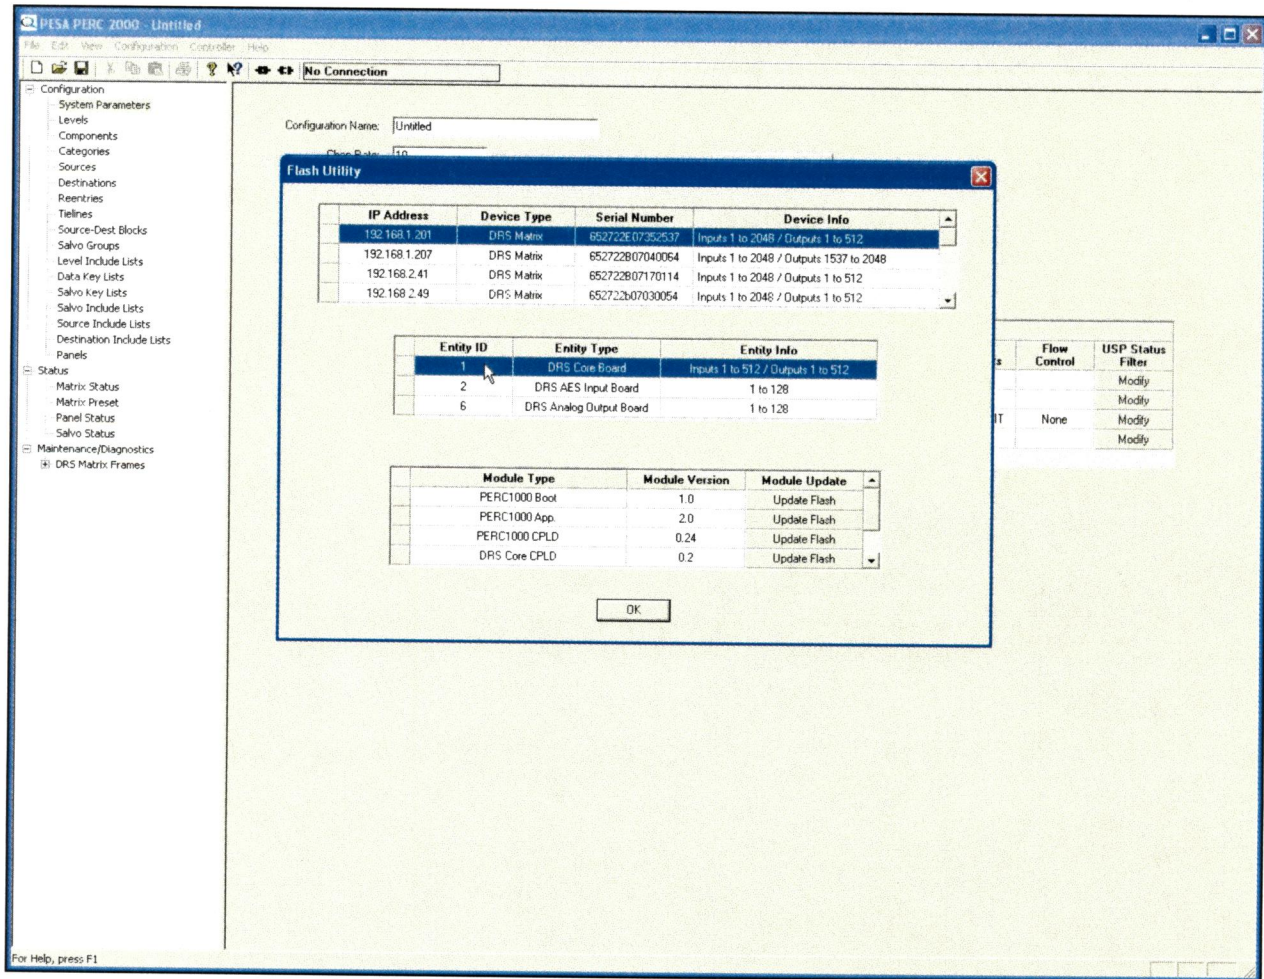

Figure 38. Entity ID Listing
5. The middle pane of the Flash Utility window identifies the entities within the selected DRS matrix, and lists them in the column titled Entity Type. An entity is any of the components making up the matrix such as the DXE Core Board (listed as DRS Core Board) and the audio input and output boards. Clicking on any entry in the Entity ID list selects that entity as the component on which you wish to perform flash memory reprogramming. For this procedure you will reprogram the flash on the DXE Core board first, followed by the audio boards. Highlight the **DRS Core Board** entry in the Entity ID listing as shown in Figure 38.